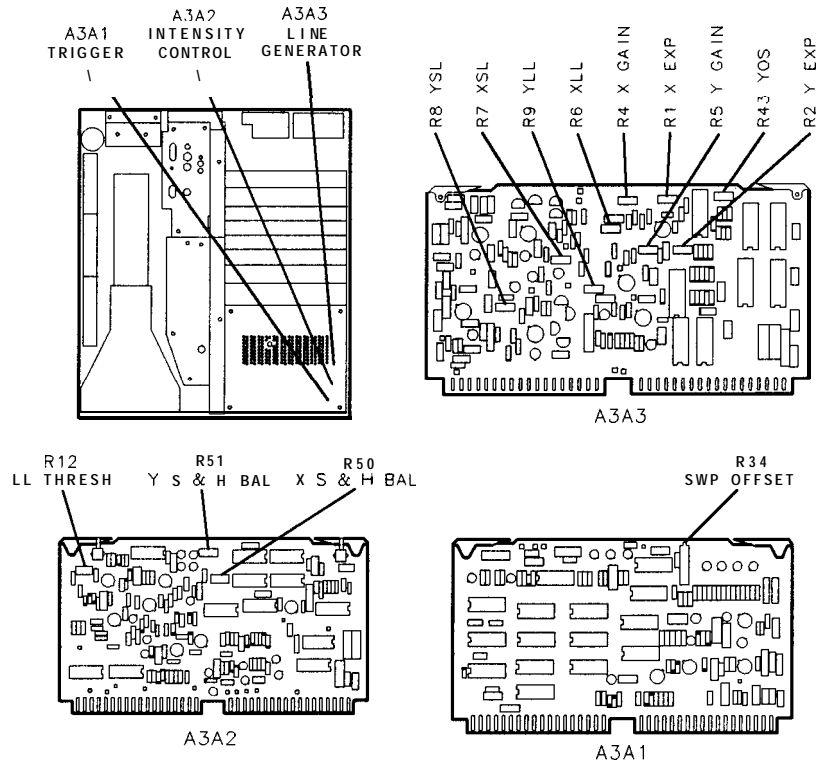
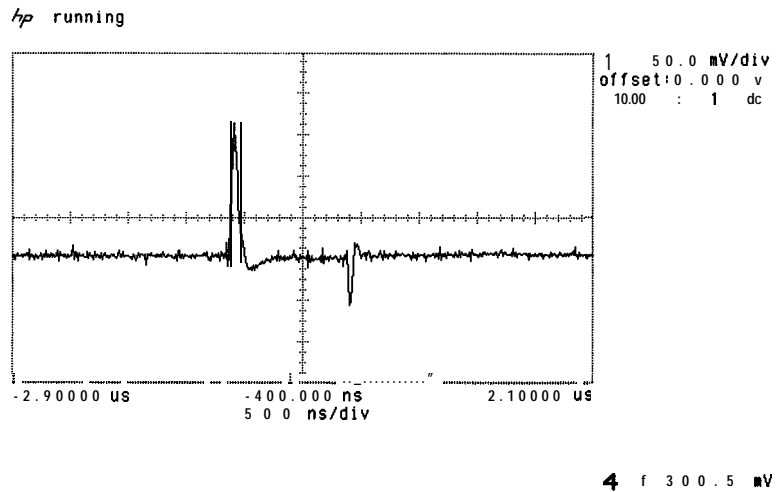
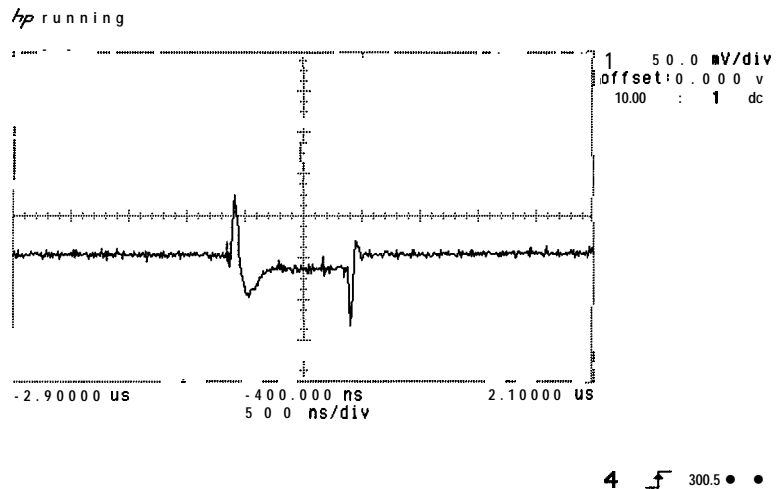

Figure 3-105.
Figure 3-106. Sample and Hold Balance Adjustment Waveforms
Figure 3-107. Waveform Before Adjustment
4. Adjust A3A3R4 X GAIN and A3A3R5 Y GAIN to place graticule information completely on CRT. See Figure 3-105 for location of adjustment.
5. Adjust A3A2R12 LL THRESH fully clockwise. See Figure 3-105 for location of adjustment.
6. Adjust A3A3R6 XLL so that horizontal graticule lines just meet the vertical graticule lines at the left and right sides of the graticule. See Figure 3-105 for location of adjustment.
7. Adjust A3A3R9 YLL so that vertical graticule lines just meet the horizontal graticule lines at the top and bottom of the graticule. See Figure 3-105 for location of adjustment.
18. Adjust A3A2R50 X S&H BAL for minimum dc offset between the level of the signal inside the two pulses to the signal level outside the two pulses. Figure 3-106 shows a properly adjusted waveform. Figure 3-107 shows the waveform before adjustment. Refer to Figure 3-105 for location of adjustment.
28. Adjust **A3A1R34** SWP OFFSET so that the signal trace begins at the left edge graticule line. Refer to Figure 3-105 for location of adjustment.
29. Adjust **A3A3R4** X GAIN for twenty cycles displayed on the CRT graticule. This may be made easier by adjusting **A3A1R34** SWP OFFSET so that the first peak is centered on the left edge graticule line, then adjusting **A3A3R4** X GAIN for two cycles per division with the twenty-first cycle being centered on the right edge graticule line. **A3A1R34** SWP OFFSET must then be readjusted so that the trace begins at the left edge graticule line. See Figure 3-105. for location of adjustment.